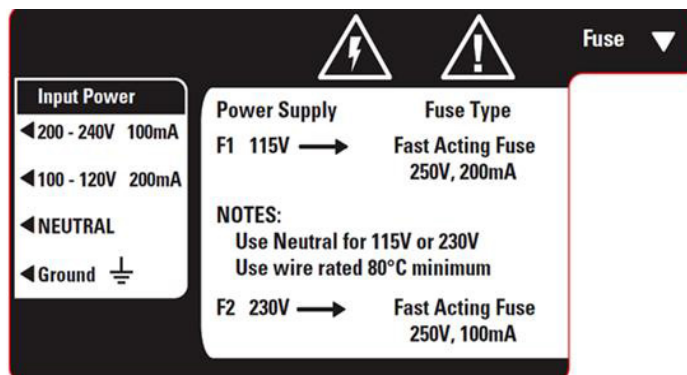

Figure 3: Power supply
- Power supply – Refer to Figure 3.
6. Plug the terminal connector into the power supply. Refer Figure 3.
7. The universal power supply uses both fuses in the fuse kit. Install by inserting the fuse in the fuse holder and secure it using the twist and lock method. The fuses are clearly labeled with the appropriate voltages for your system. Refer to Figure 3 and Figure 5 for the correct fuse holder positions. Refer to the table below for fuses required.